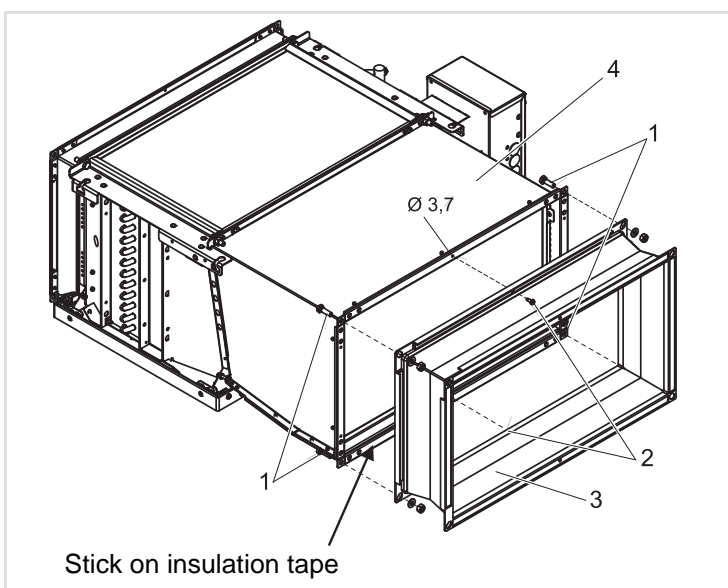

Fig. 4-11: Mounting flexible canvas connection
- Fasten the flange of the flexible canvas supports (Order No.: ZGH.#A112 (discharge side), ZGH.#A111 (inlet side), whereby the # sign indicates the model size of the unit) using M8 screws (washers and nuts) and tapping screws (see Fig. 4-11 Pos. 2,) to the unit with fan section or to the sound attenuator, or to the discharge transition piece.